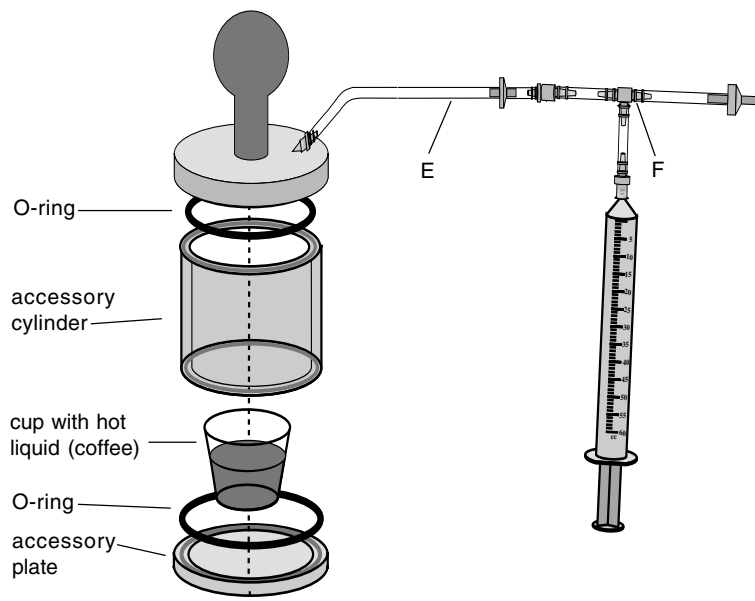

Figure 4.1
1. Assemble the Magdeburg Plates and the extra cylinder, plate, and O-ring from the Accessories kit as shown in Figure 4.1.